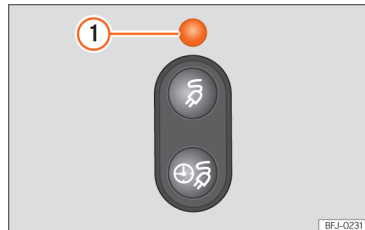

Fig. 56 Behind the battery charging socket cover: charging process indicator.
The charging process indicator is an LED >>> Fig. 56 ① located on the charging socket that shows the status of the charging process.